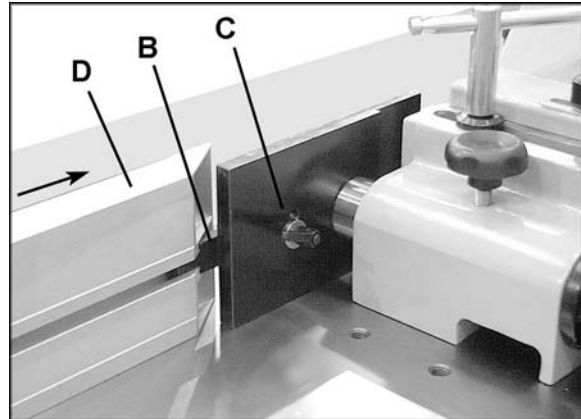

Figure 8
2. Fasten bar (B, Figure 8) to the front of the fence half using the locking lever (C, Figure 8) and washer. Slide an aluminum fence (D, Figure 8) onto the bar. (NOTE: Right hand and left hand fences are slightly different. Only one washer is required under lever (C) shown in Figure 8. Other side requires two washers under the lever.)
NOTE: Locking levers (C, Figure 8) are spring loaded and can be repositioned by pulling out the handle and rotating it on the nut.
1. To laterally adjust the aluminum fence plates, loosen the two fence locking levers (refer to C, Figure 8), slide the fence plates to the required positions and tighten locking levers.